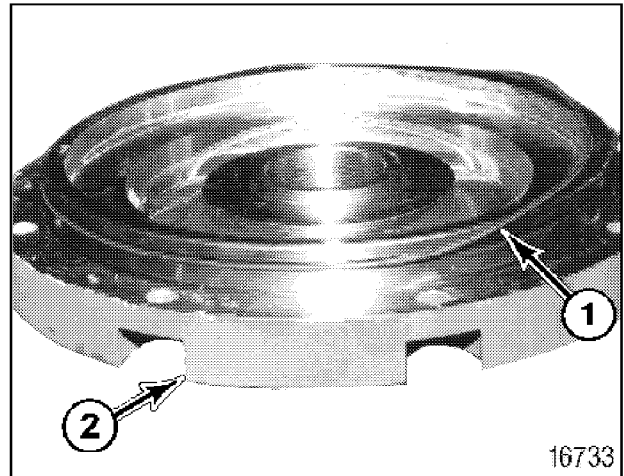

Figure 23
21. Coat new O-ring (1, Figure 23) with clean oil, and position it in O-ring groove of clutch housing cover (2).